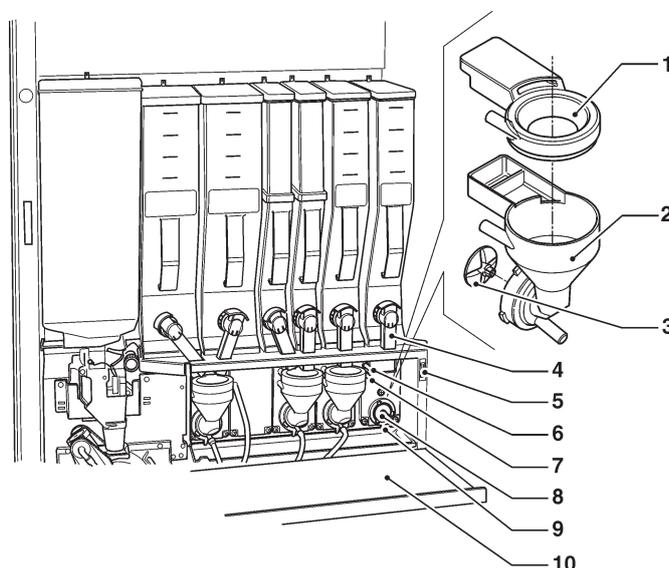

Fig. 31
- remove the powder funnels, the water collection boxes, the powder deposit funnels and the impellers of whipper motors from the mixers (see fig. 31);